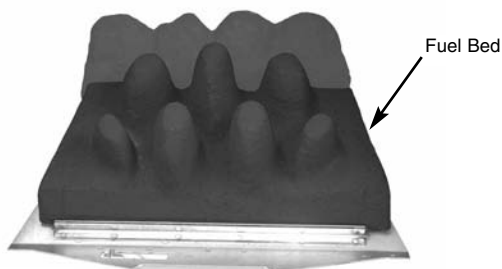

Fig. 12
2. Place the main fuel bed on to the middle section of the metal burner tray. It is important that the front edge of the fuel bed is located behind the burner strip (Fig. 12).